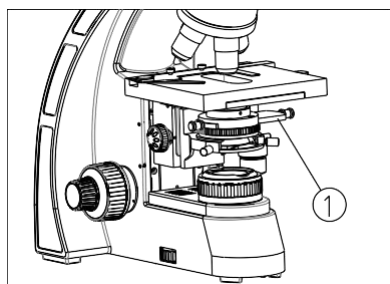

Fig. 29
(6) When observing the fluorescence slide, pull the fluorescence flashboard ① a bit left, it will sound a “Dida” when moved to the fluorescence observation position, and the transmission illumination path is totally covered. (See Fig. 29)